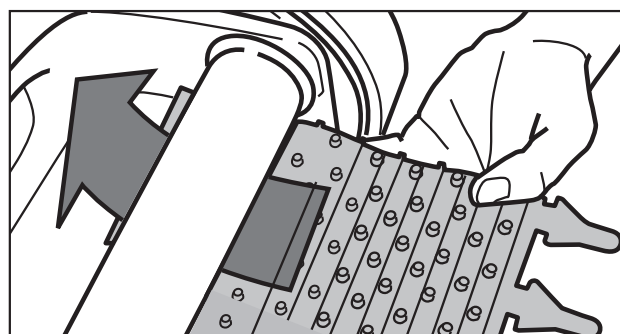

Figure 15. Position the New Brush on Roller
2. Position the new brush underneath the roller with the spikes facing downwards. Refer to Figure 15.